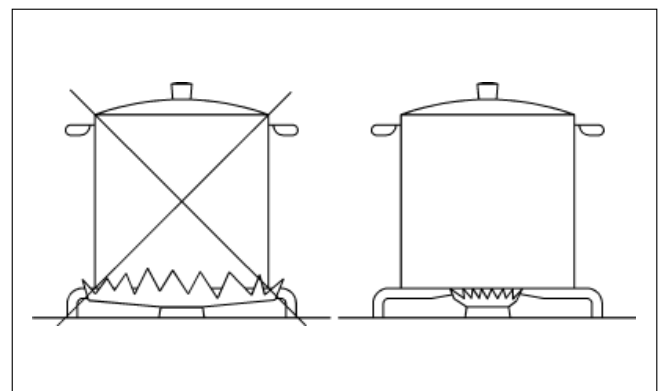

FIG. 2
- use suitable pans for each burner (see the table below and fig. 2).